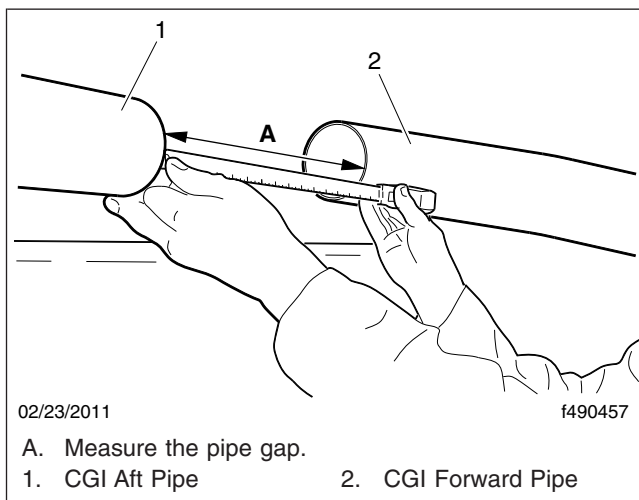

Fig. 9, Measuring the Pipe Gap (typical)
- 7. Once the pipes are aligned, measure the pipe gap between the CGI pipes and record the distance. See Fig. 9, Ref. A.